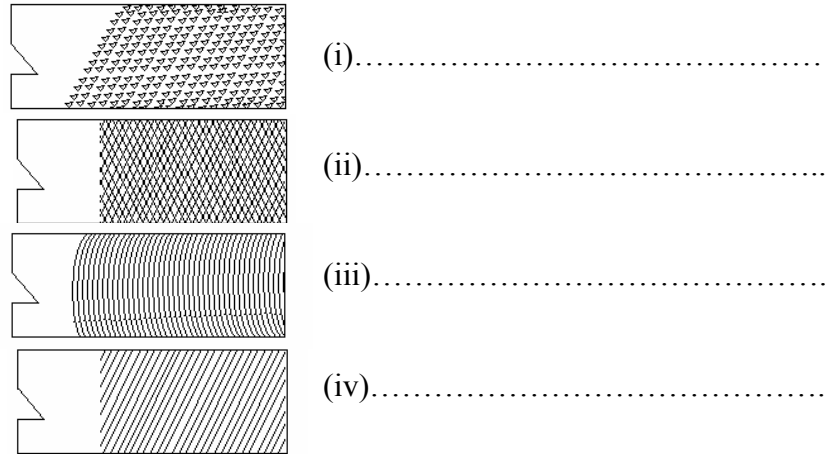

Figure 1
3. Figure 1 shows four types of cutter teeth.